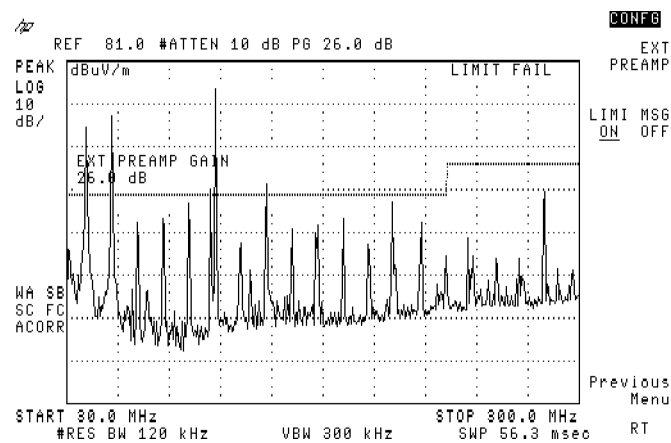

Figure 3-54. Factoring in the Preamplifier's Gain
23. Press 26, **(dB)** (or a value equal to your preamplifier's gain). The preamplifier's gain appears at the top of the display screen (as **PG 26.0 dB**). The EMC measurement personality factors in the proper amount of preamp gain. See Figure 3-54.